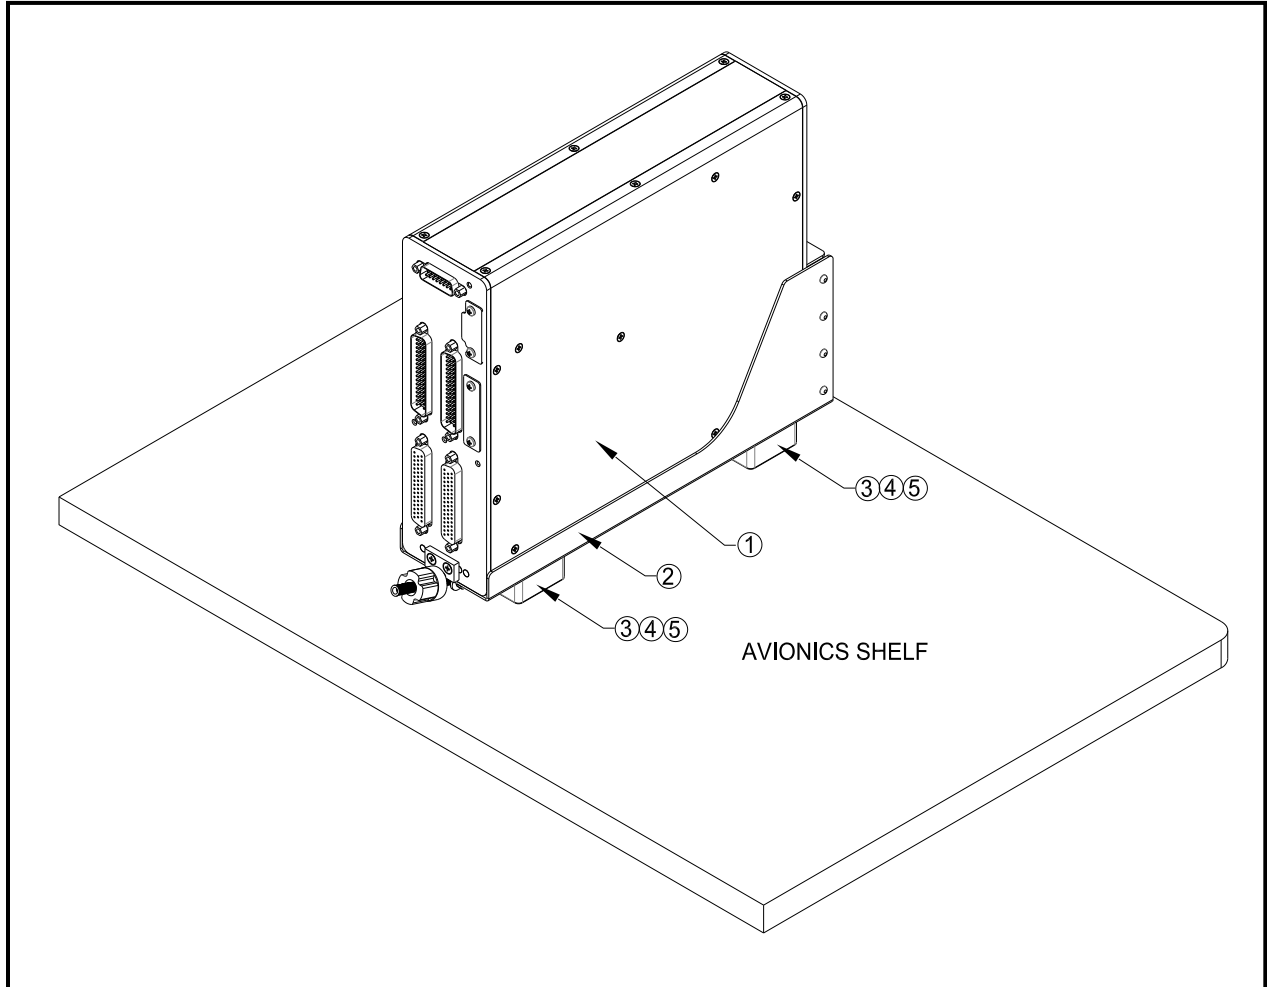

Figure 15: EC135 Digital Router Avionics Shelf Installation
- b. Loosen the thumb screw securing the router into the tray and slide the router out of the tray shown in Figure 15.
- c. Remove the (4) MS24693S276 Screws and (2) Shims connecting the Tray to the avionics bay shelf as shown in Figure 15.
Parts List for Figure 15: For Router G13000 Installation
Parts List for Figure 15: For Router G13160 Installation
This installation provides mounting provisions for the Digital Audio Router in the Aft avionics bay shelf area for the EC135 as shown in Figure 15. The location is shown for reference only. The exact placement of the Router is dependent on the other pre-existing installed equipment. Orientation of the tray is at the installer's discretion. Maintain 2 e/d edge margin for all mounting holes.